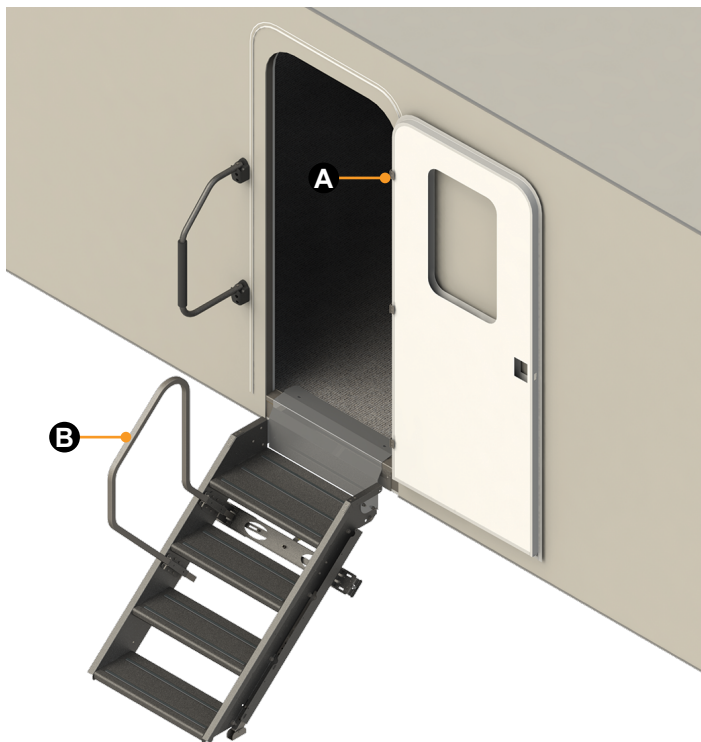

Fig.3
9. Insert the appropriate end of the Entry Assist Handrail into the mounting bracket, see (Fig.3) for reference.